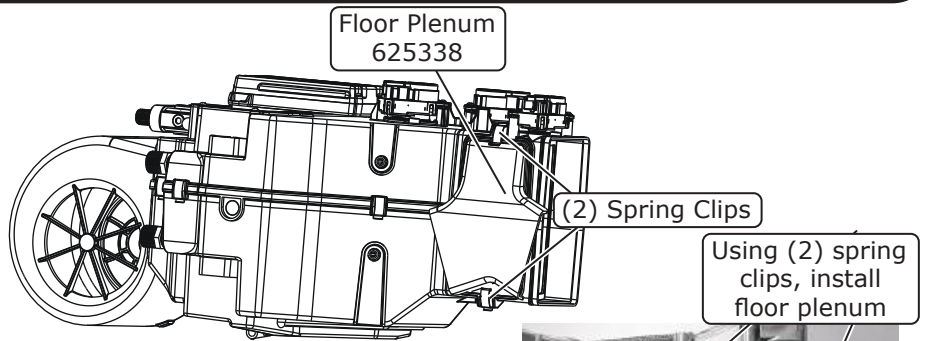

Figure 1
2. Install the floor plenum using (2) spring clips (See Figure 1 and Photo 2, below).